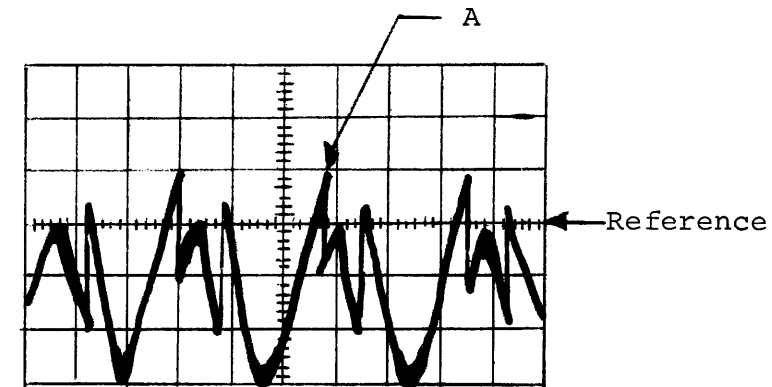

Figure 5: Slice Measurement
- Decrease the time base and read the amplitude of point A (see Figure 5). This value is the slice measurement. Set the slice by adjusting the potentiometer on the B section of the G085 Module.